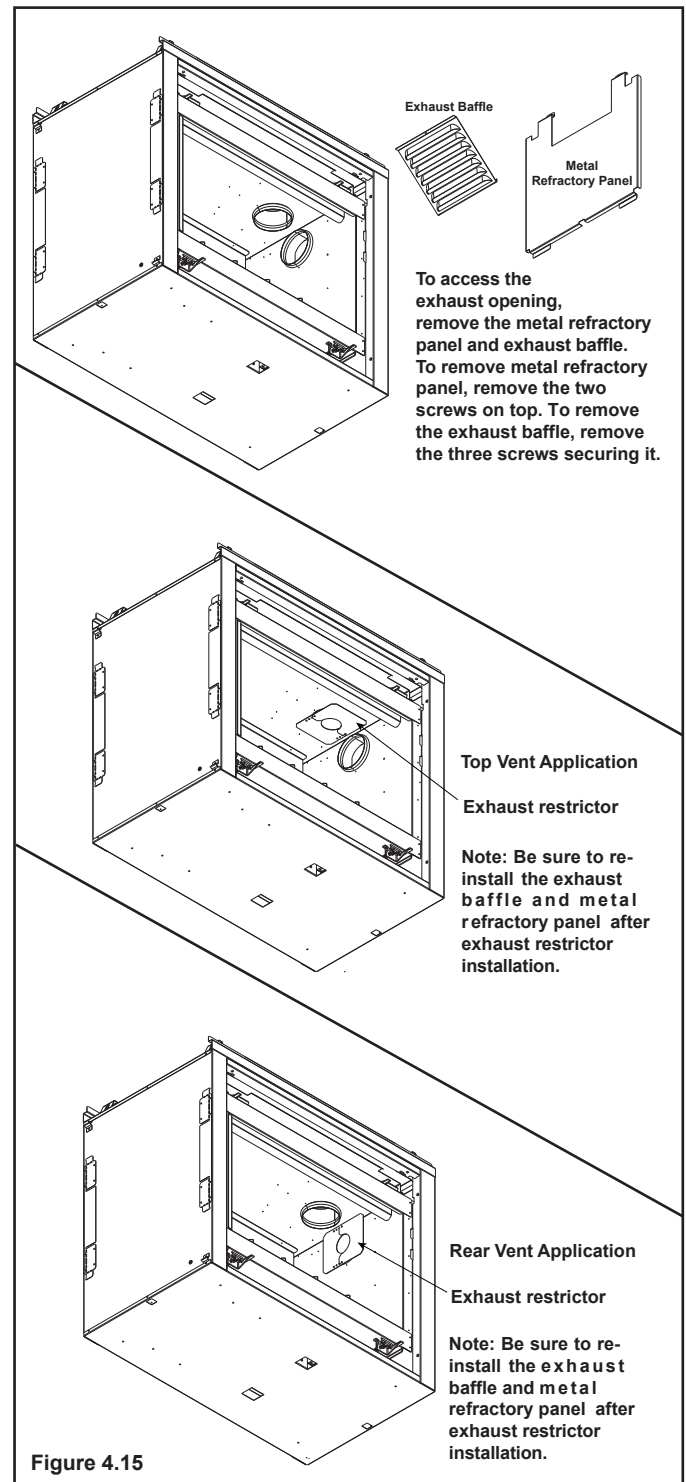

Figure 4.15
1. Remove metal refractory panel and exhaust baffle from pilot side of appliance. To remove the refractory panel use a 1/4 inch nut driver and remove the two screws that secure it in place. To remove the exhaust baffle, remove the three screws securing it in place. See Figure 4.15.